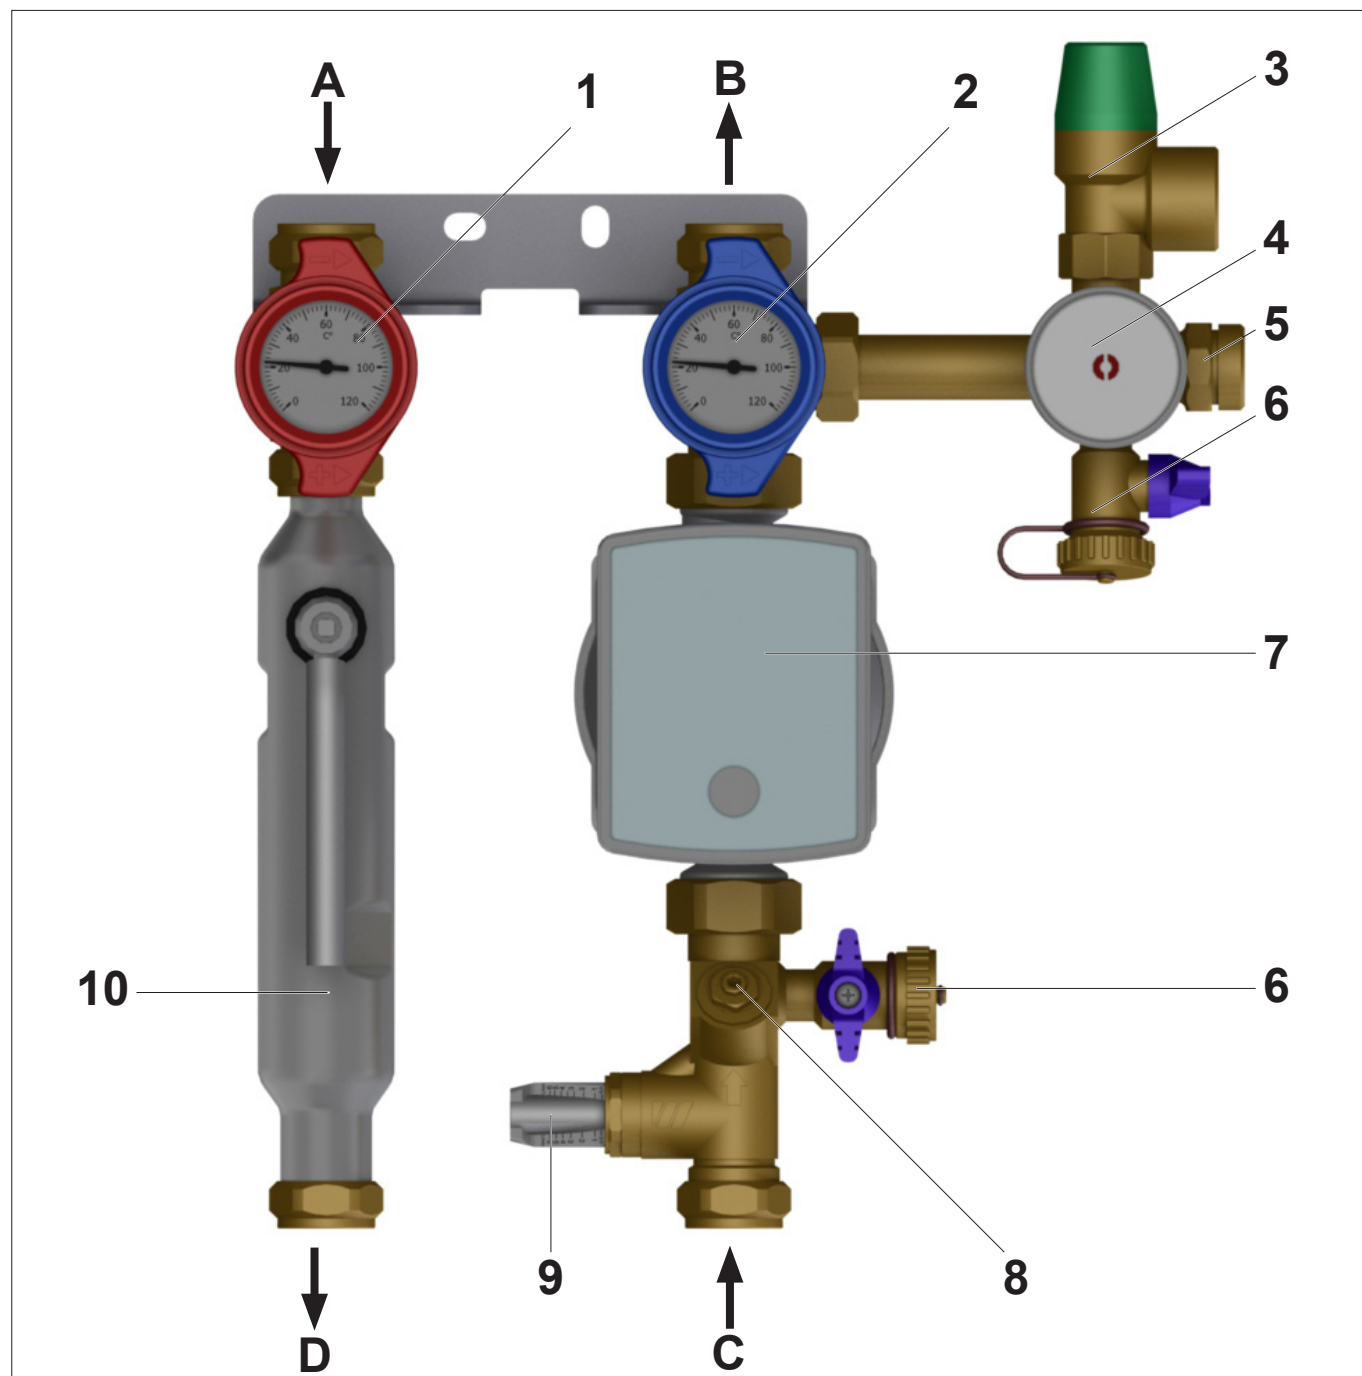

Fig. 3: Component overview (represented in type 8130 with venting pipe and WattFlow)
- Connect the supply and return line of the solar circuit (Pos. A+B, see Fig. 3 on page 8) and of the storage circuit (Pos. C+D, see Fig. 3 on page 8).